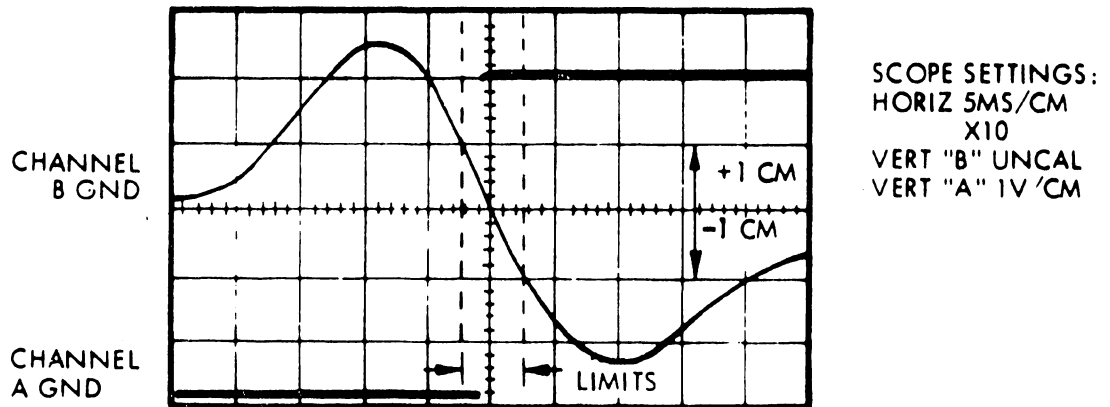

FIGURE 3-8 TYPICAL F.E.O.T. WAVEFORM
23. Expand time base (X10) until a waveform similar to Figure 3-8 is obtained.
25. Using the screwdriver, move the assembly forward or reverse until the FEOT signal, channel 1, goes positive in the center of the channel 2 signal. The limits are shown in Figure 3-8.